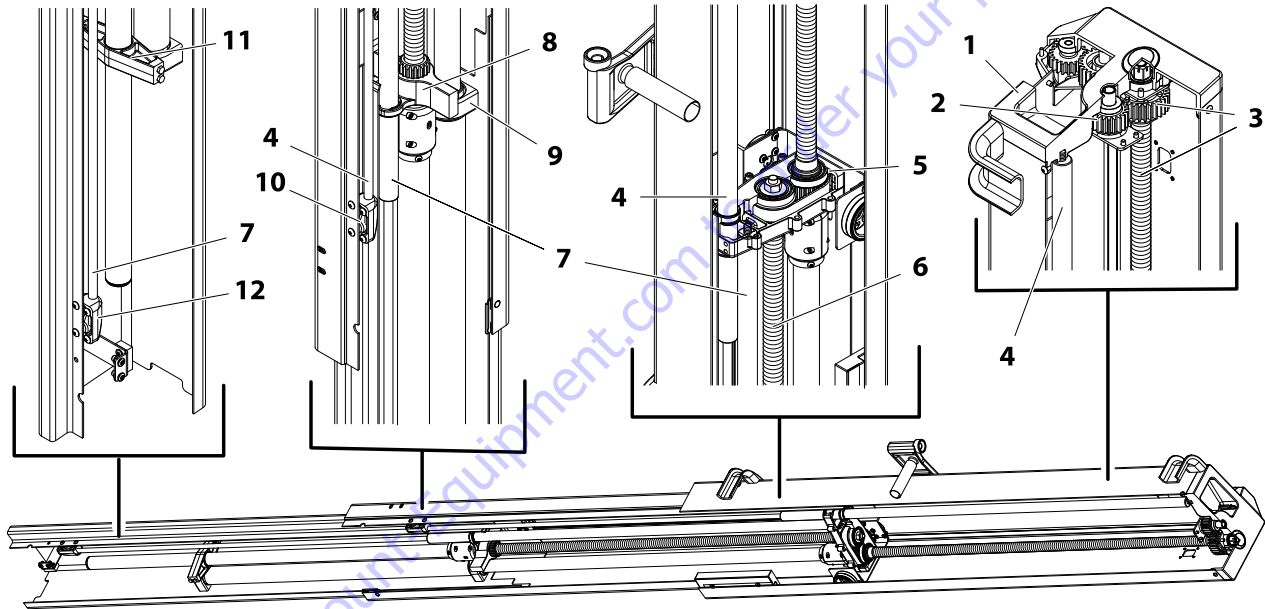

Figure 6-1. FT70 and FT140 - Mast Component Overview
- a. Slide special tool into the bottom of the mid-mast section to engage the outer to mid-mast section gas strut cylinder rod mount - *Item 10, Figure 6-1. on page 6-9*
- d. Remove the four (4) hex drive screws holding the strut mount to the mid-mast section.
- e. Once all four screws are removed, slowly unscrew the tool block releasing the remaining pressure from the gas strut, approximately one (1) to two (2) inches.
4. Next release the pressure from the mid to inner-mast section gas strut - *Item 12, Figure 6-1, on page 6-9, same as the outer to mid-mast procedure.*
- c. Remove the four (4) hex drive screws holding the strut mount to the mid-mast.
Check the nylon gas strut guides, where the gas struts pass through the gear box (item 5 - Figure 6-1. on page 6-9) and the drive screw attach bracket (item 8 - Figure 6-1. on page 6-9) for excessive wear or breakage. Replace if necessary.